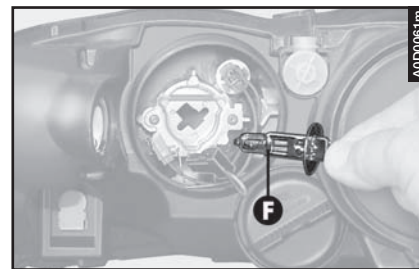

fig. 31
- Remove the bulb (**F- fig. 31**).